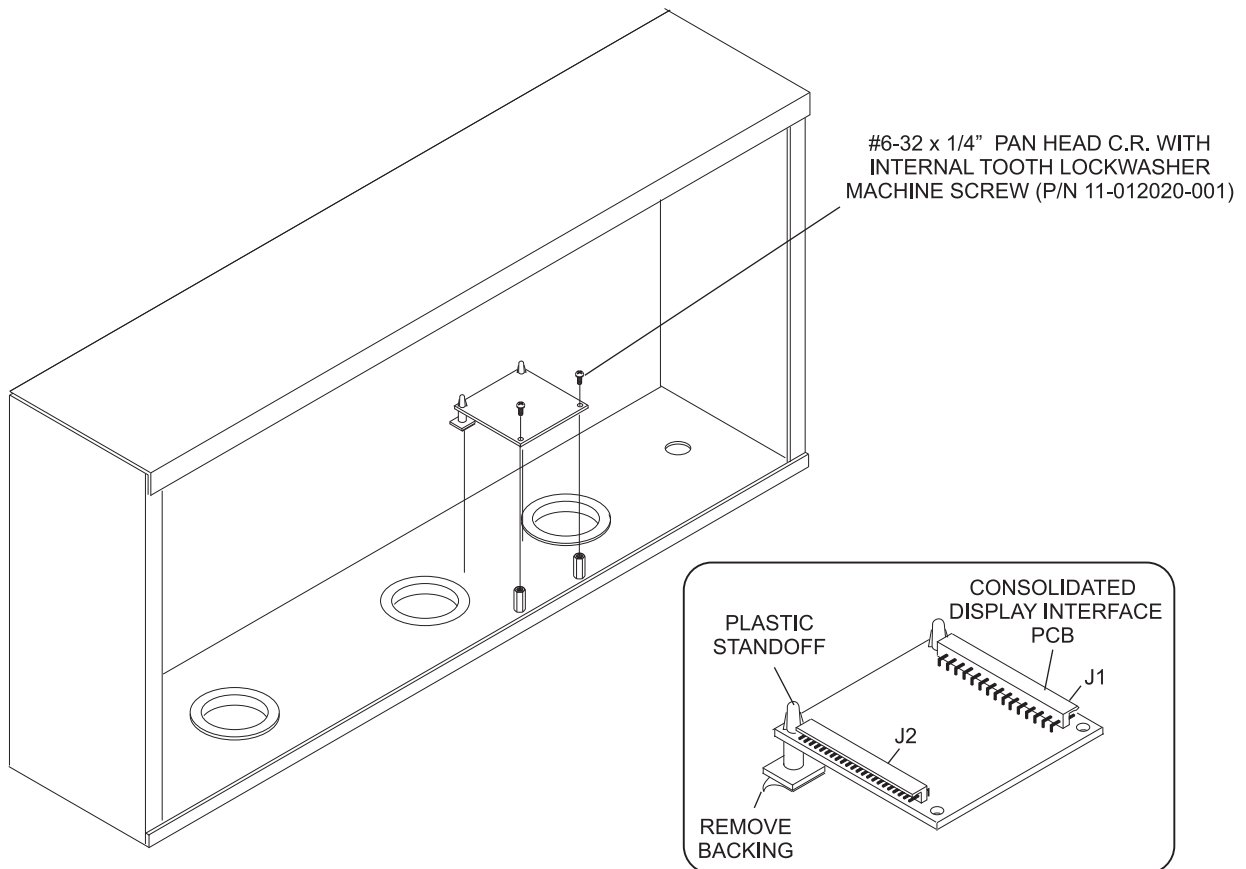

Figure 3
3. Remove the backing paper from the plastic standoffs and position the Consolidated Display Interface Board (P/N 47-142754-000) onto the metal standoffs, with "J1" connector on the right hand side and "J2" connector on the left hand side, then secure with two #6-32 x 1/4" pan head w/internal tooth lockwasher machine screws (P/N 11-012020-001). Refer to *Figure 3*.